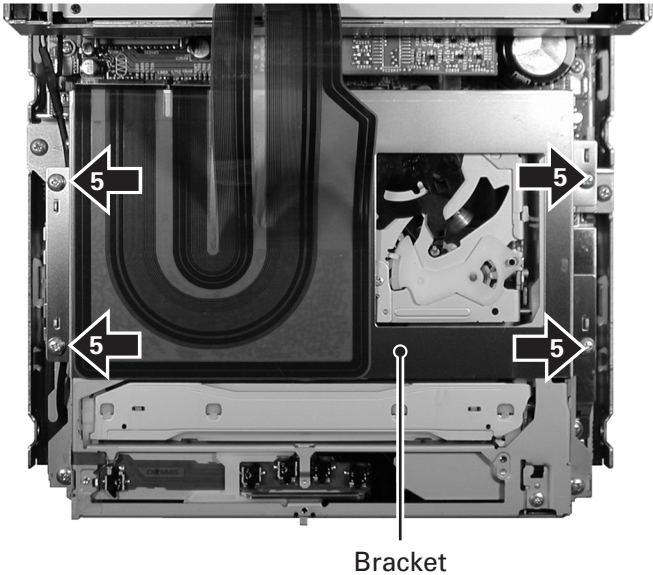

Fig.2
- ➡ 5 Remove the four screws. (Fig.2)
Disconnect the connector and then remove the Bracket. (Fig.2)